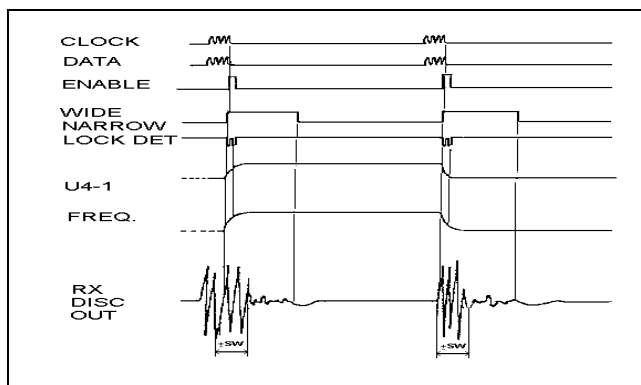

Figure 3 - Channel Switching Sequence
- The channel switching sequence and the action of the related functions are shown in Figure 3.